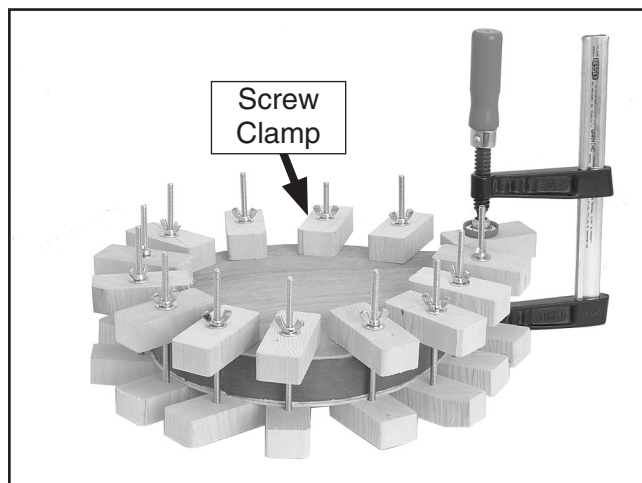

Figure 11. Top, rim, and backboard clamped together.
- Place screw clamps around the rim and a C-clamp over the headblock, then tighten them to hold the top and backboard in place until the glue dries, as shown in **Figure 11**.